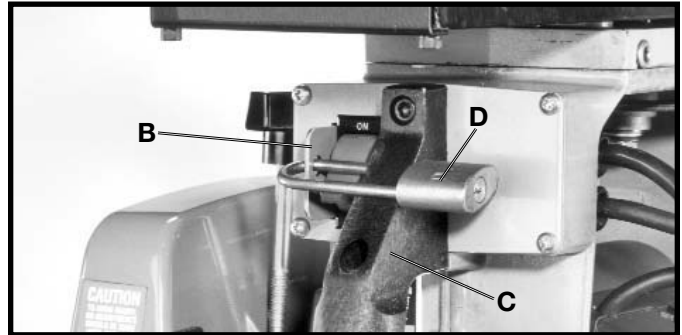

Fig. 57
IMPORTANT: When the machine is not in use, the switch should be locked in the OFF position using a padlock (D) Fig. 57, with a 3/16" diameter shackle to prevent unauthorized use. This can be done by inserting a padlock (D) Fig. 57, through the holes in switch plate (B) and handle (C) as shown. Padlock (D) Fig. 57, is available as an accessory.